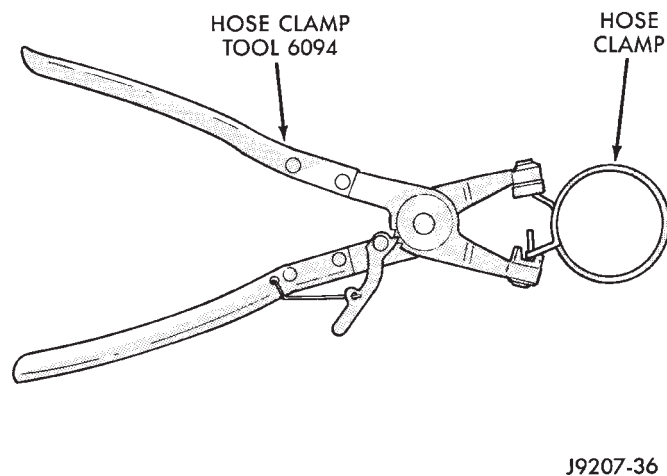
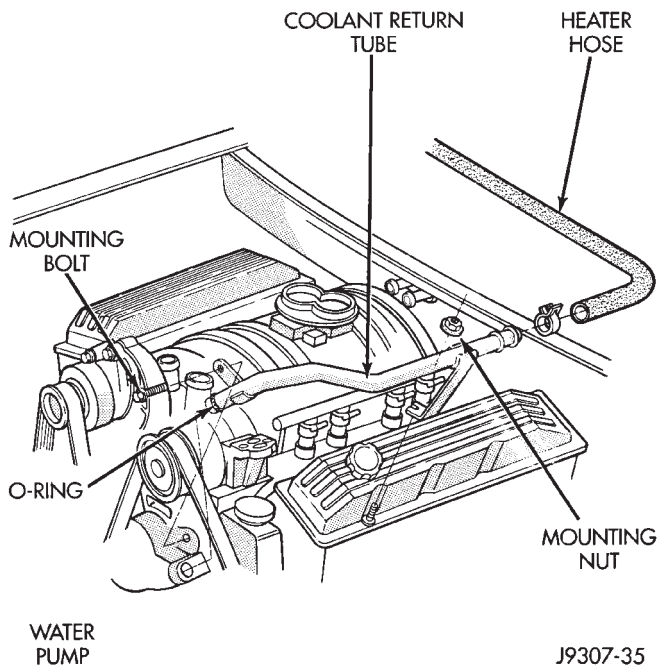

Fig. 19 Hose Clamp Tool
Fig. 21 Coolant Return Tube—5.2L Engine
WARNING: CONSTANT TENSION HOSE CLAMPS ARE USED ON ALL COOLING SYSTEM HOSES. WHEN REMOVING OR INSTALLING THIS TYPE OF CLAMP, ONLY USE TOOLS DESIGNED FOR SERVICING THIS TYPE OF CLAMP SUCH AS MILLER CLAMP TOOL 6094 (FIG. 19).
(2) Loosen both bypass hose clamps (Fig. 19) and position to center of hose. Remove hose from vehicle.
- (1) Position bypass hose clamps (Fig. 19) to center of hose.
- (2) Install bypass hose to engine.
- (3) Secure both hose clamps (Fig. 19).
- (4) Fill cooling system. Refer to Refilling the Cooling System in this group.
- (5) Start and warm the engine. Check for leaks.
- (3) Remove upper radiator hose clamp (Fig. 19) and hose at radiator.
- (4) Unplug wiring harness from A/C compressor.
- (5) Remove air duct at throttle body.
(6) Disconnect A/C lines from clip at intake manifold.
(7) Remove heater hose coolant return tube mounting bolt and nut (Fig. 21). Remove tube from engine and discard the old tube O-ring.
- (1) Position bypass hose clamps to center of hose.
- (5) Install a new O-ring to the heater hose coolant return tube (Fig. 21). Coat the new O-ring with anti-freeze before installation.
- (6) Install coolant return tube to engine (Fig. 21). Be sure the slot in tube bracket is bottomed to the mounting bolt. This will properly position return tube.
- (7) Connect throttle body control cables.
- (8) Install oil dipstick mounting bolt.
- (9) Install idler pulley. Tighten pulley bolt to 54 N•m (40 ft. lbs.) torque.